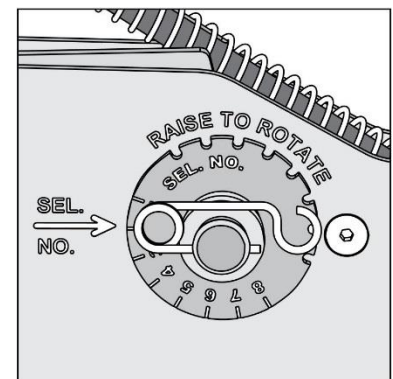

Figure 4
6. Replace the spring clip. See Figure 4.